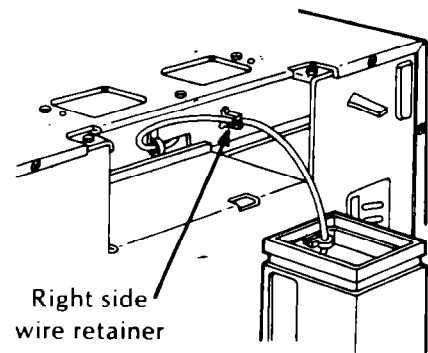

Figure 11
3. Change lead wire holding position from left side wire retainer to right side wire retainer (Fig. 11).